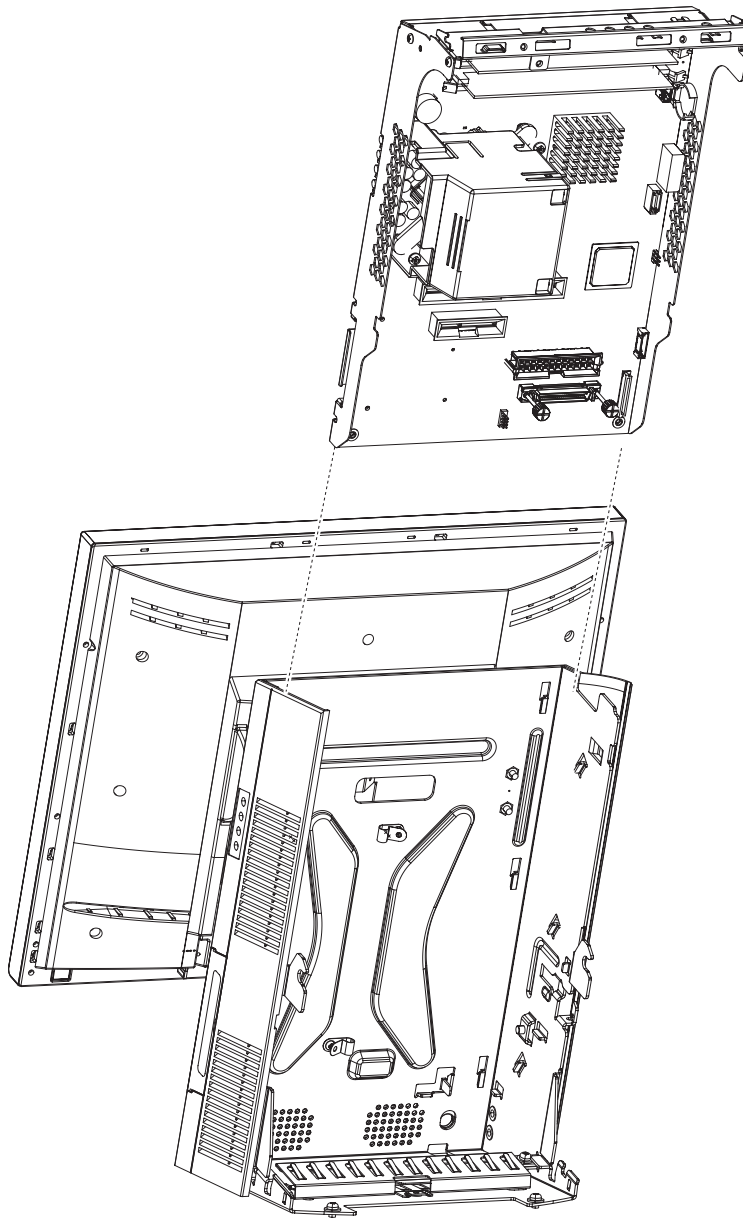

Figure 20. Removing the system board
10. Grasp the entire system board assembly and slide it out toward the top as show in Figure 20 on page 48.